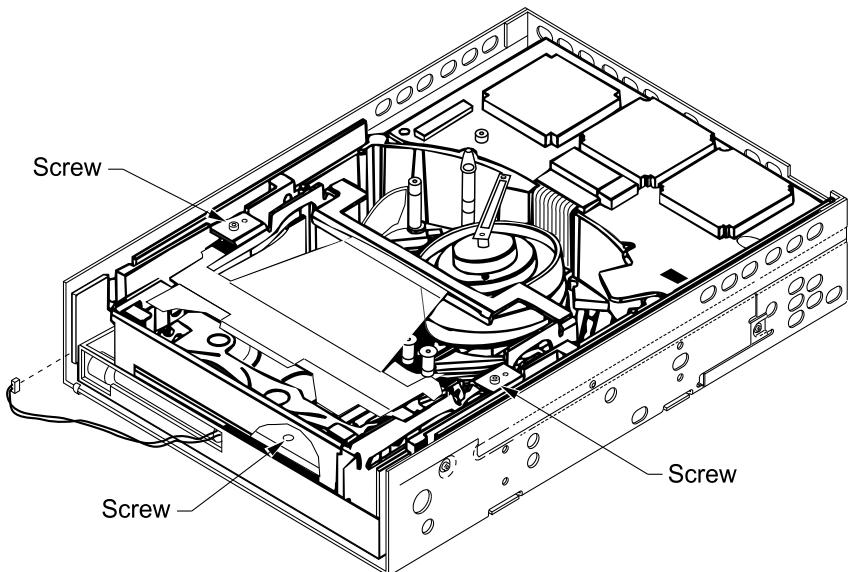

Figure 5 Removing the cartridge loader screws and disconnecting the wires
2. Use a pair of tweezers to disconnect the cartridge loader wire connector from the circuit board (see Figure 5). Note the orientation of the wires so that you can replace the connector correctly.
3. Use a T-6 screwdriver to remove the three screws that secure the cartridge loader to the tape drive (see Figure 5).